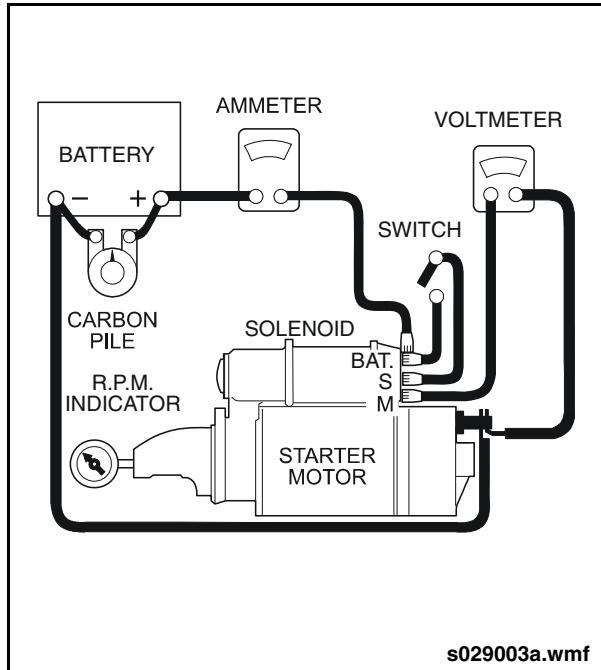

Fig. 9-37: No-Load Test
1. Connect an ammeter in series with the positive (+) cable from the two 12-volt batteries and the BAT terminal of the starter solenoid. See "Fig. 9-37: No-Load Test" on page 52.
2. Connect a switch in the open position from the starter solenoid BAT terminal to the solenoid switch (S) terminal.
4. Connect a voltmeter from the solenoid motor (M) terminal to commutator end terminal on the starter motor.